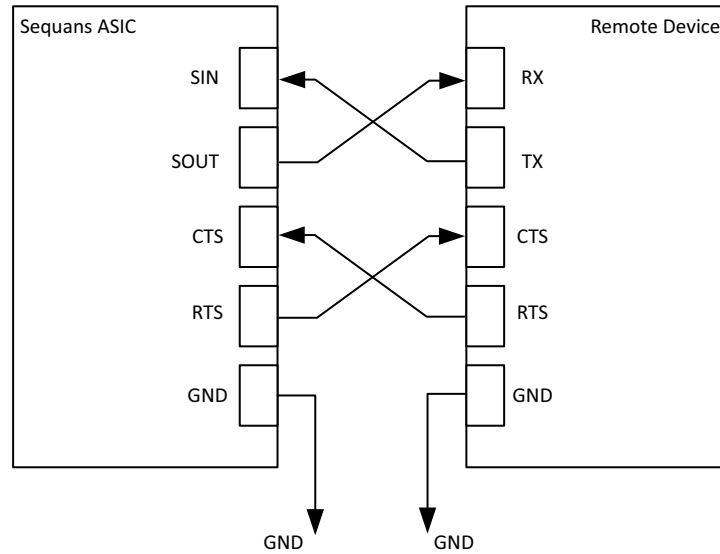

Figure 3-1: UART Flow Control
- **UART2_CTS:** UART2 flow control, Clear-To-Send, active low, of the CB410L. To be connected to the RTS of the remote UART device. Provision a 1 kOhm pull-down on CTS pin when flowcontrol is not used. If it is connected to an external component (like a RS232 driver), the user should make sure that this component will present a low level to the CB410L. See Figure 3-1.
- **UART2_RTS:** UART2 flow control, Ready-To-Send, active low, of the CB410L. To be connected to the CTS of the remote UART device. See Figure 3-1.
- **UART3_CTS:** UART3 flow control, Clear-To-Send, active low, of the CB410L. To be connected to the RTS of the remote UART device. Provision a 1 kOhm pull-down on CTS pin when flowcontrol is not used. If it is connected to an external component (like a RS232 driver), the user should make sure that this component will present a low level to the CB410L. Figure 3-1.
- **UART3_RTS:** UART3 flow control, Ready-To-Send, active low, of the CB410L. To be connected to the CTS of the remote UART device. See Figure 3-1.
Figure 3-1 represents the typical implementation for the hardware flowcontrol.